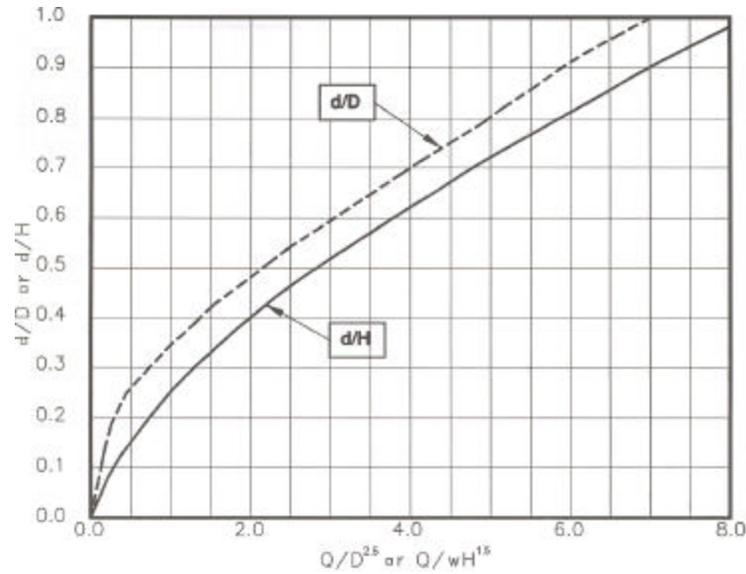

Figure 3. Brink Depth for Very Flat Longitudinal Sloped Circular and Rectangular Pipes
Compare this value of this d/D (or d/H) with that obtained from Figure 3 using the Froude parameter, namely,
Step 4. Calculate: $Q/D^{2.5} = 2.81$. Use this in Figure 3 to find $d/D = 0.57$.
Step 4. Calculate $Q/wH^{1.5} = 7.50$ and use this in Figure 3 to find $d/H = 0.94$.